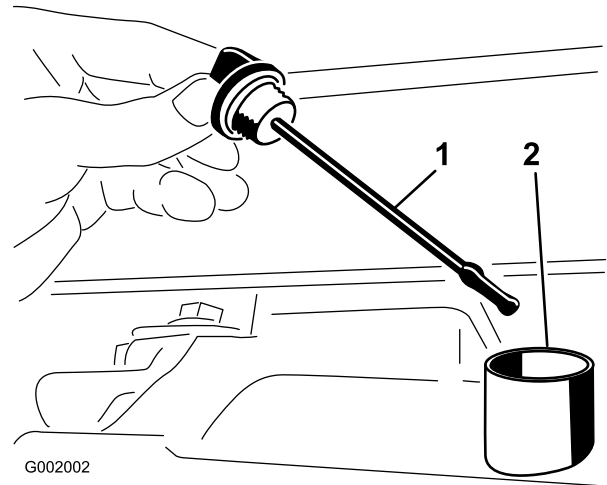

Figure 67
2. Remove the transaxle dipstick and wipe it with a clean rag (Figure 67).